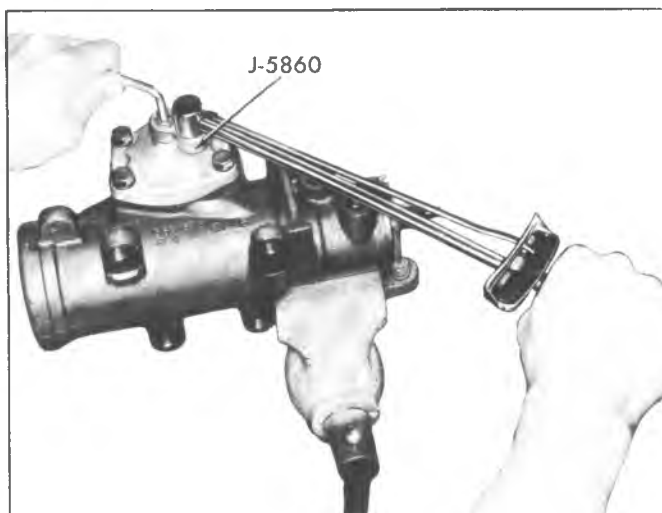

Fig. 62--Torquing Over-Center Locknut
- e. While holding the adjusting screw, tighten the lock-nut to 35 ft. lbs. using using Adapter J-5860 (fig. 62) and recheck the adjustment.